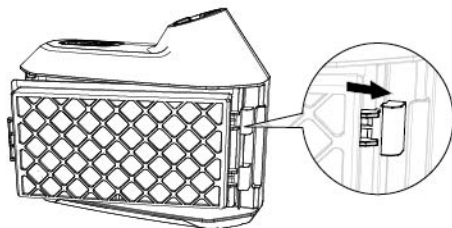
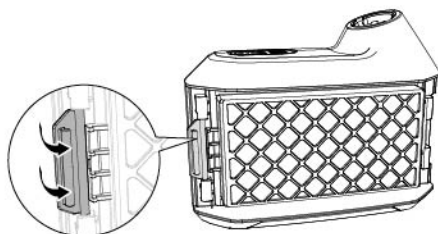

fig.3c
fig.3d
- Insert the right tab on the P3 filter into the slot on the blower (Fig.3c), and snap-lock the left side to fit the filter cartridge into place (Fig.3d). Make sure the filter cover is correctly installed.